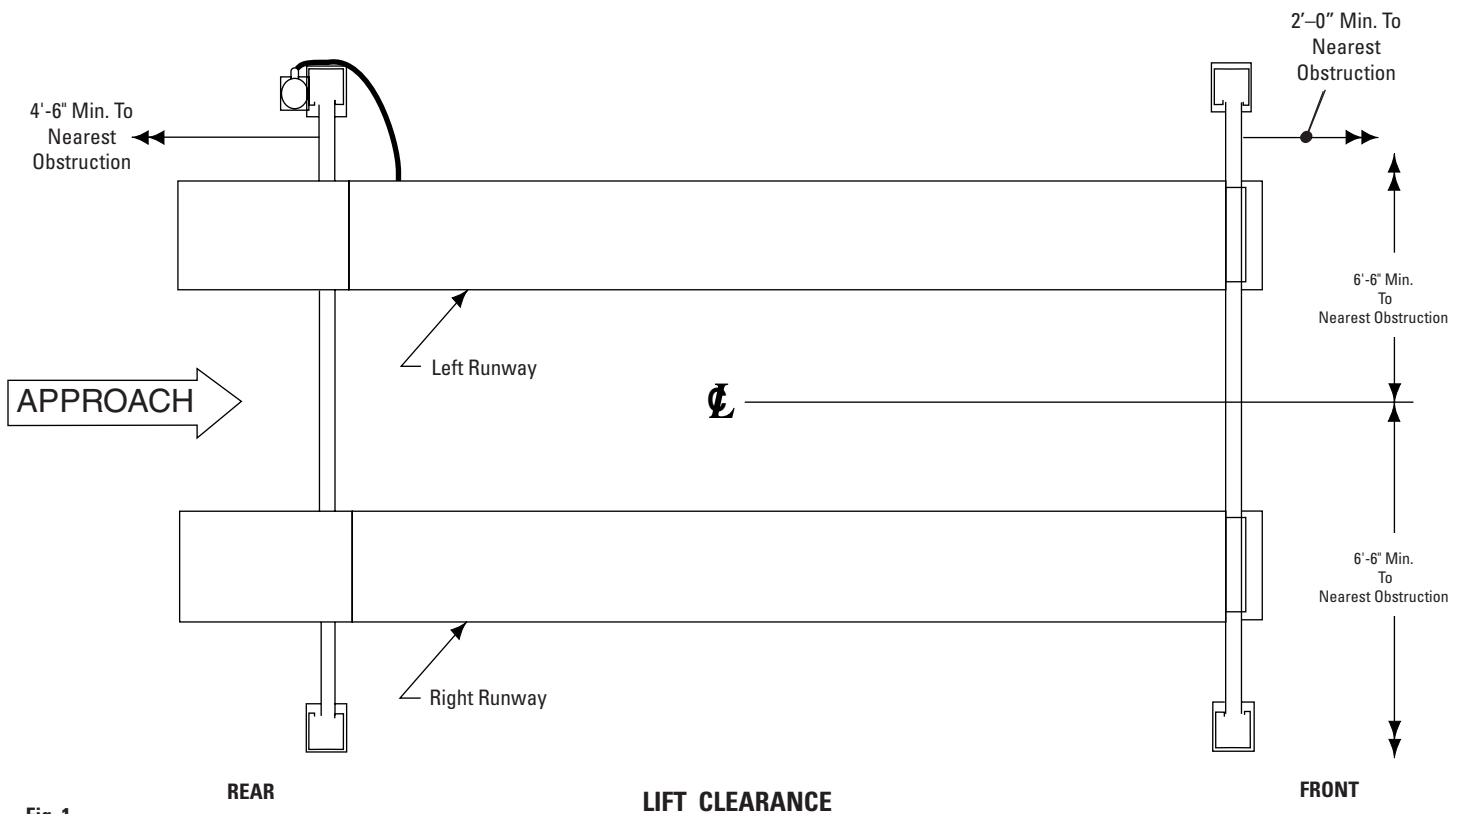

Fig. 1
- 1. Lift Location:** Use architects plan when available to locate lift. Fig. 1 shows dimensions of a typical bay layout. For power unit at right front, rotate lift 180°, leaving ramp/chocks and wheel stops in original position. Lift floor area should be level.
C. Position front and rear yokes at respective ends of runway, Fig. 1. The opening in the side of the yokes should be lined up with the cable sheaves in the runway ends. Feed cable ends through yoke openings, Fig. 4 and 9. Do not assemble sheaves in yoke ends at this time.
- A. Keep columns square to center line of lift. Check lift location in the bay, Fig. 1. Check dimensions side-to-side, front-to-rear, and diagonally. Diagonals must be equal to within $\frac{1}{4}$ ", Fig. 10.